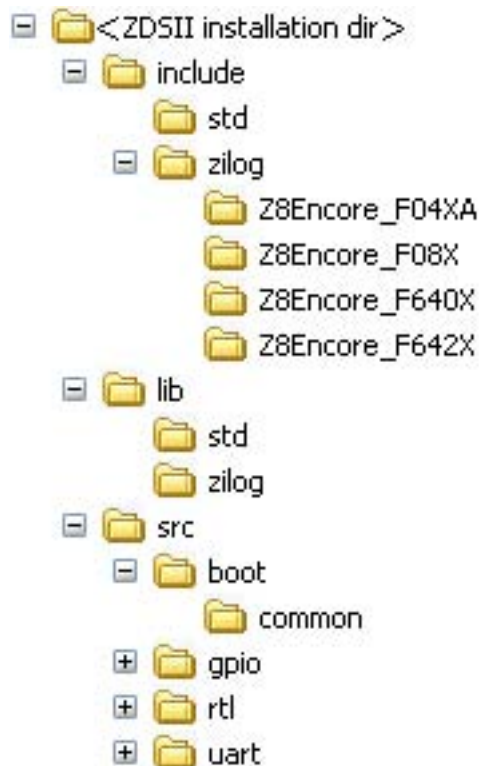

Figure 2. ZSL Directory Structure
Figure 2 displays the directory structure of ZSL. Table 7 lists the files contained in each sub-directory.
- **Note:** In Figure 2, <ZDS installation dir> specifies the root directory of ZDS II installation—for example, ZDSII_Z8 Encore!_4.11.0.